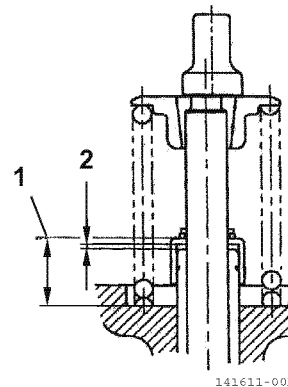

Figure 6-33
Always install new valve stem seals. The exhaust valve stem seals are different than the intake valve stem seals and can be identified by either the paint marks on the outside of the seals or by the color of the seal spring (4, Figure 6-33). Ensure they are installed in the correct locations.
2. Measure the distance (1, Figure 6-33) from the cylinder head to valve stem seal to ensure proper clearance (2, Figure 6-33) between the guide and the seal. See *Intake/Exhaust Valve and Guide* on page 6-5.